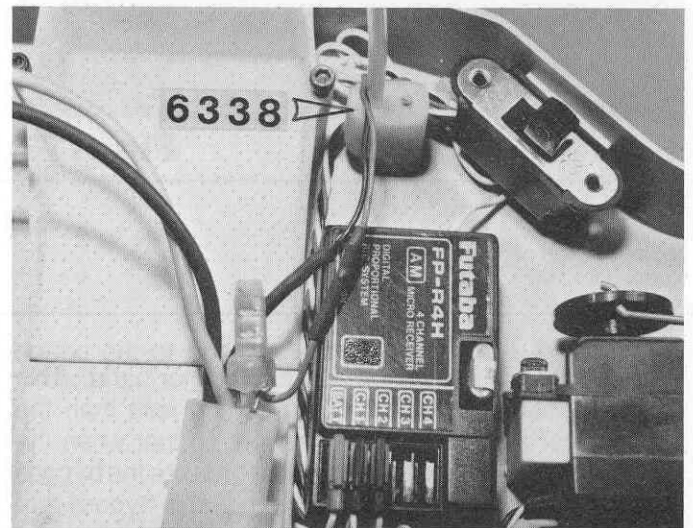

Fig. 182
□ **Fig. 182** Install the wire plug from the switch into the battery socket in your receiver. Install the steering servo plug into the proper socket and then install the throttle servo plug into the proper socket per your radios instruction manual. Take the long plastic antenna tube and install it into the large hole in the #6338 antenna mount. The round end of the mount is the bottom.